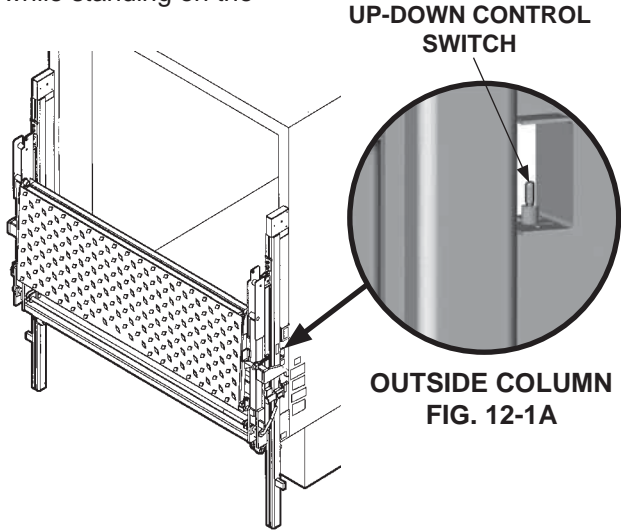

FIG. 12-1
Toggle switch on the RH column (FIG. 12-1A) lets operator raise (UP) and lower (DOWN) the platform (FIG. 12-1) while standing on the ground.
Toggle switch (FIG. 12-1B) on RH column lets operator raise (UP) and lower (DOWN) the platform (FIG. 12-1) while standing on the platform.